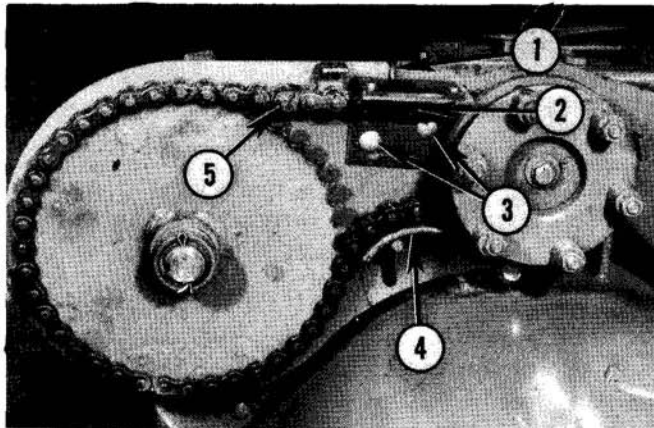

Fig. 12 — Replacing External Chain
2. Relieve chain tension by unhooking spring, Fig. 12.
3. Remove chain dampener by removing two bolts, Fig. 12.
4. Separate chain by removing cotter pin and chain master link pin, Fig. 12.